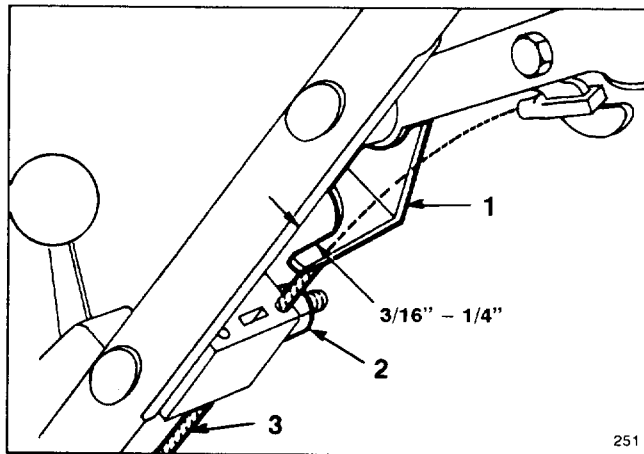

Figure 19
2. CHECK ADJUSTMENT (Fig. 19)—Move control bar toward handle until slack in wire is removed. Gap between brake lever and handle must be  $3/16"$  –  $1/4"$ . See step 3 for adjustment.
3. ADJUST CABLE CONDUIT (Fig. 19)—Loosen nut on cable bracket. Insert  $3/16"$  –  $1/4"$  object between brake lever and handle. Pull down on cable conduit until all slack is removed from wire. Then tighten nut.